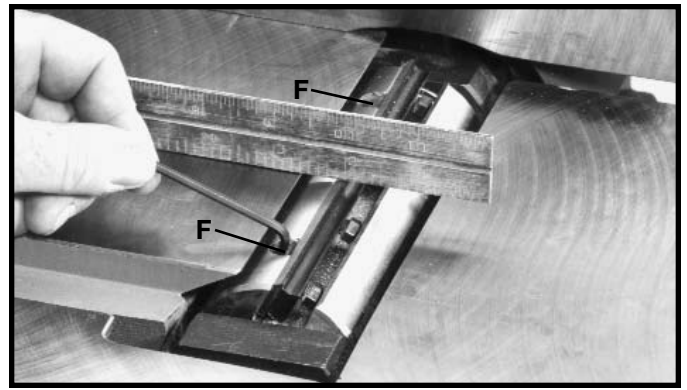

Fig. 42
5. If the knife is high or low at either end, slightly turn the four screws (D) Fig. 41, in the knife locking bar clockwise to loosen using the wrench (E) supplied. Then adjust the height of the knife by turning the knife raising screws (F) Fig. 42, counterclockwise to lower and clockwise to raise the knife.